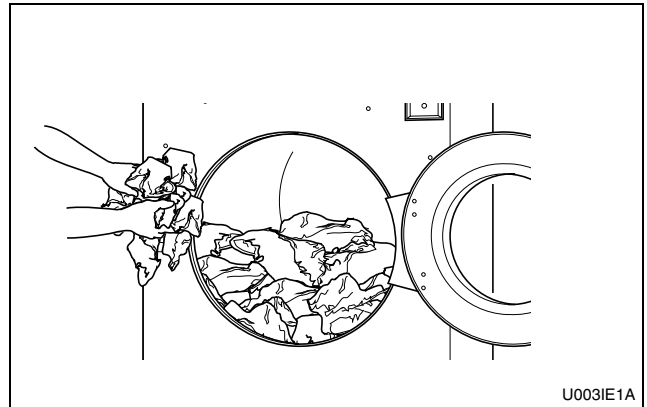

Figure 26
3. Load to capacity whenever possible. DO NOT OVERLOAD. Refer to *Figure 26*.